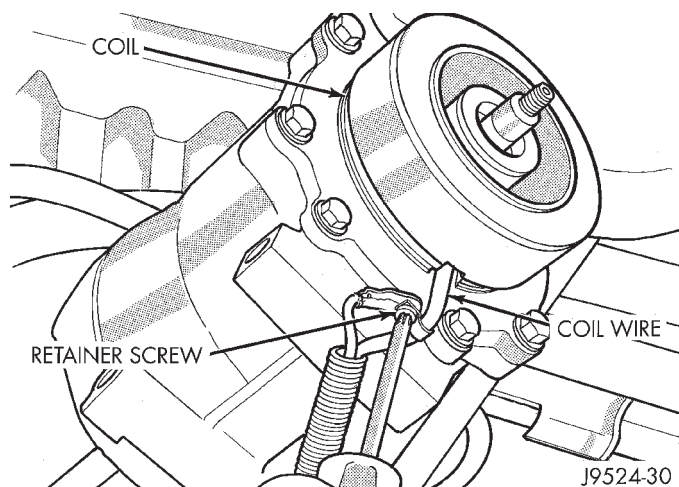

Fig. 23 Clutch Coil Lead Wire Harness
(12) Remove the screw and retainer from the clutch coil lead wire harness on the compressor front housing (Fig. 23).